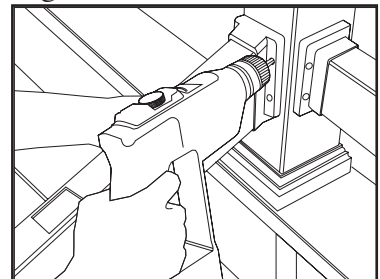

Fig. 3
6. Slide reversible, sloped mounting brackets on bottom rail. The sloped brackets are made to fit any angle between 30° and 34°. **NOTE: Depending on your application, there may be marginal spacing in the bracket to rail fit. (FIG. 3)**
7. Place bottom rail between posts or mounting surfaces making sure the crush block (used in 8' section) is fully nested in bottom rail and the bottom rail is at the desired angle. Once the bottom rail height is determined, mount brackets on the post or mounting surface and attach with provided 2 1/2" screws. **NOTE: When installing screws, pre-drill holes using a 1/8" drill bit. NOTE: If installing TAM-RAIL Railing into a masonry wall, masonry screws must be used in place of screws provided in kit. (FIG. 3)**